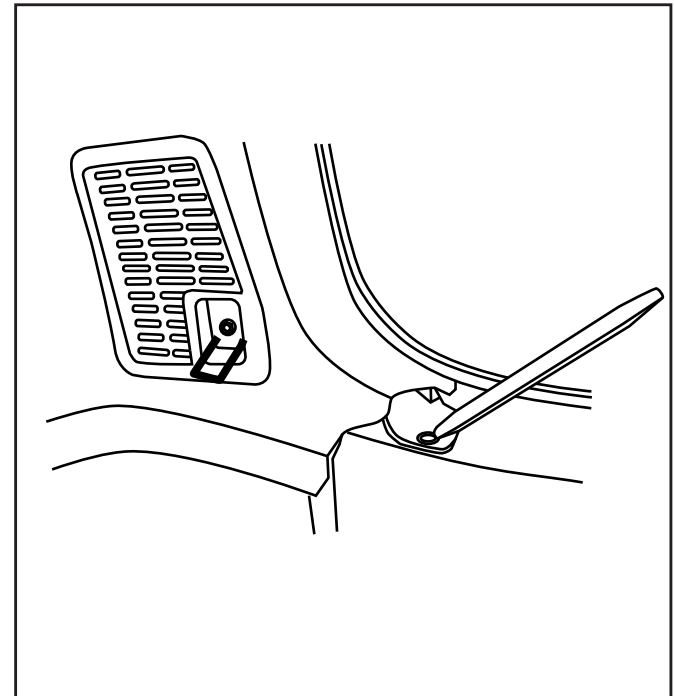

Fig. 11
12. Remove the push-pin retainer from each side of the trunk sill plate (Fig. 11).